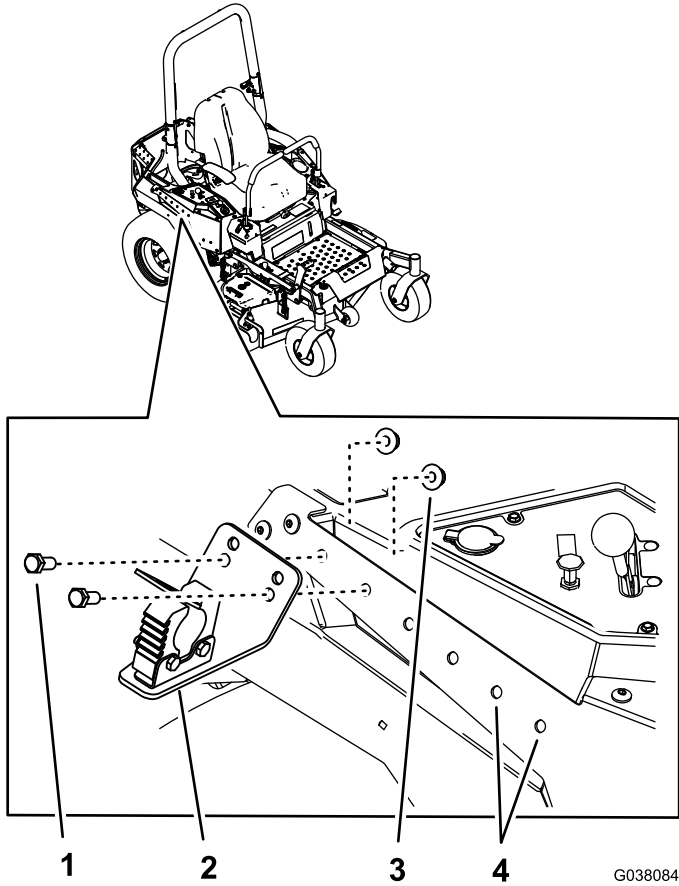

Figure 7
2. Install the rear mount assembly to the right side panel on the machine using 2 bolts (3/8 x 7/8 inch) and 2 nuts (3/8 inch) as shown in **Figure 7**.